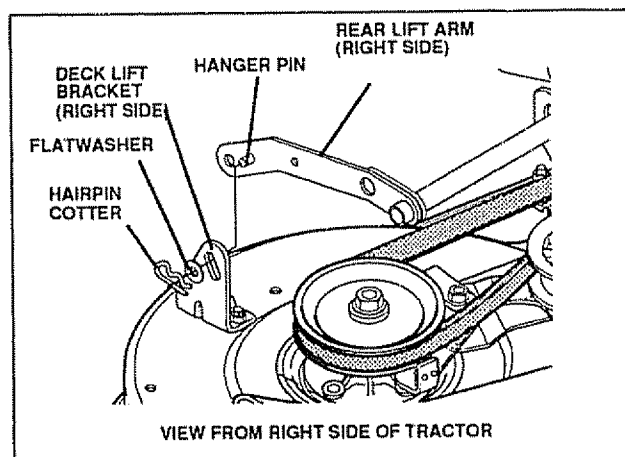

FIG. 7A
- Underneath the footrests of the tractor, remove hairpin cotters and flat washers from the left and right hand hanger pins and lay aside (see Fig. 7A).
- Place cutting height adjustment pedal in lowest position by moving memory rod to position 1 and pressing pedal latch to release cutting height adjustment pedal. **NOTE:** Be sure left and right rear lift arms are to the inside of the left and right deck lift brackets (see Fig. 7A).
- Lift deck slightly and flex right rear hanger pin inward to snap hanger pin into right deck lift bracket slot. Secure hanger pin in place with flatwasher and hairpin cotter removed earlier (see Fig. 7A).